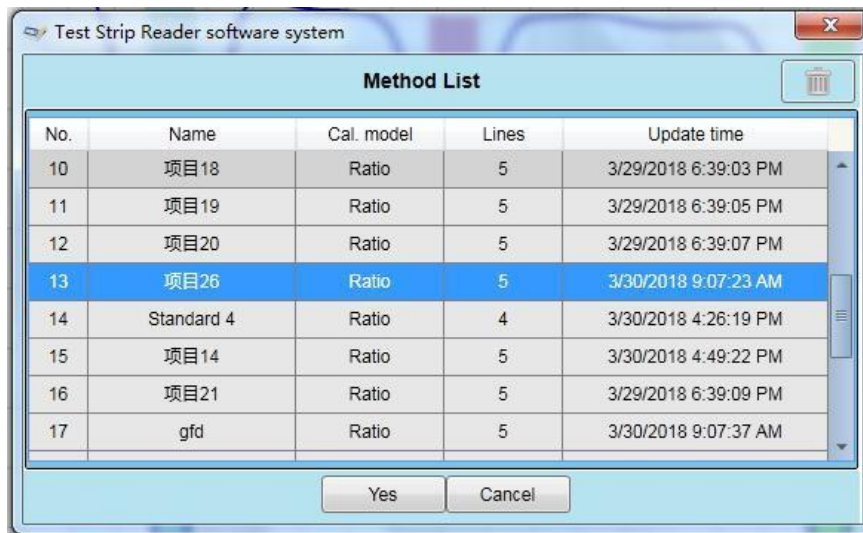

Fig19 Open method
a. **“Open method”**: Choose one test method from data base of “Test method” for test. As Figure 19.